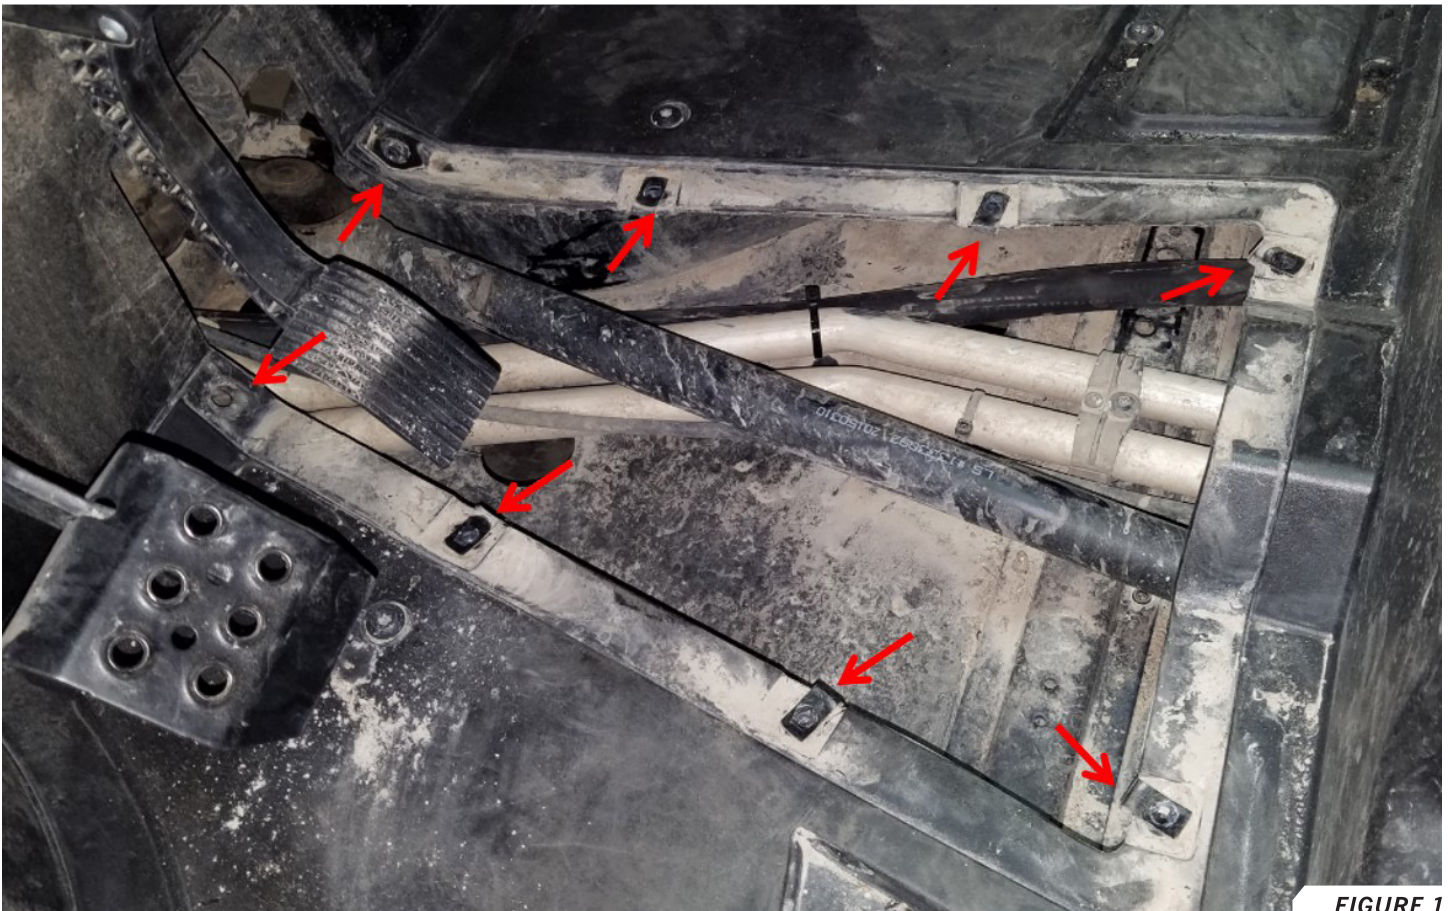

FIGURE 1
4. Remove the center tunnel cover plate and rear tunnel cover plate (if 4-seater). **FIGURE 1**